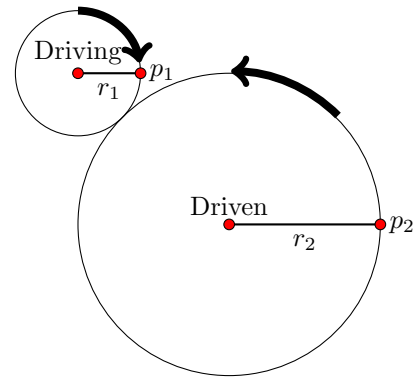
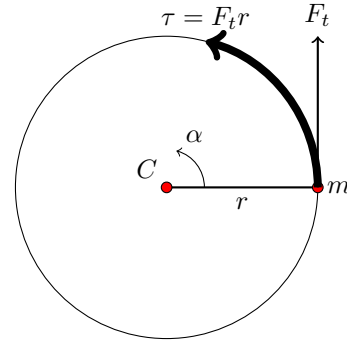

Figure 1. A pair of disks in contact.
Figure 2. A rotating disk.
1. In Figure 1, label θ'_1 and θ'_2 . Be sure to indicate the direction of motion. For now ignore friction, moments of inertia, or the possibility that the disks will slip.
the gears, set gear #1 to have a “pitch diameter” of 2 and a “diametral pitch” of 12. The application will then produce the gear train in Figure 1. The 3D-printed model in Figure 2 has the same configuration. Using Gear Generator, set the driving gear #0 to 45 rpm and fill in the information missing in the table.